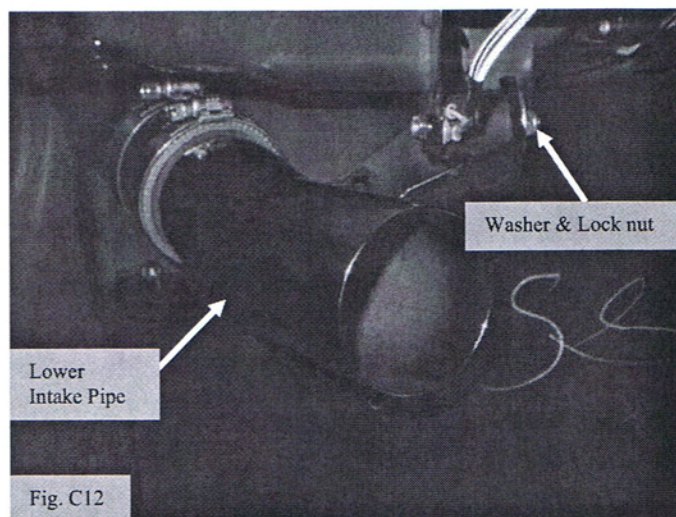

Fig. C12
- i. Make sure the end of the pipe is fully inserted into to coupler and that the pipe ends are flush to each other. Do not tighten the clamp at this time. (Fig. C12)
- ii. Secure Lower Intake Pipe mount to rubber mount with a 6mm wide area washer and a lock nut. (Fig. C12)